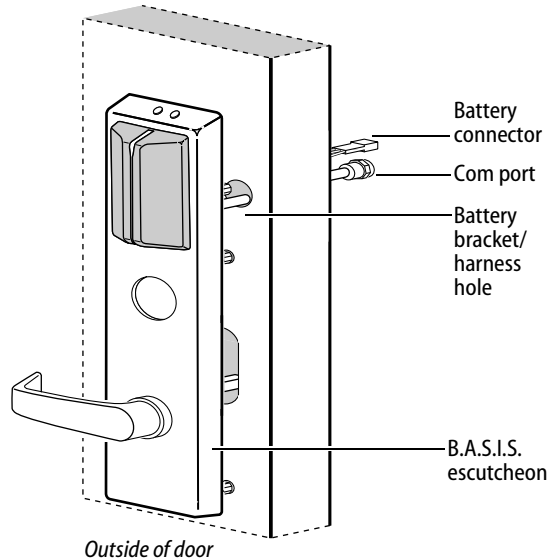

Figure 6 Feeding the wire harness connectors through the battery bracket/harness hole
- 1 From the outside of the door, feed the com port and battery connector through the battery bracket/harness hole as shown in Figure 6.